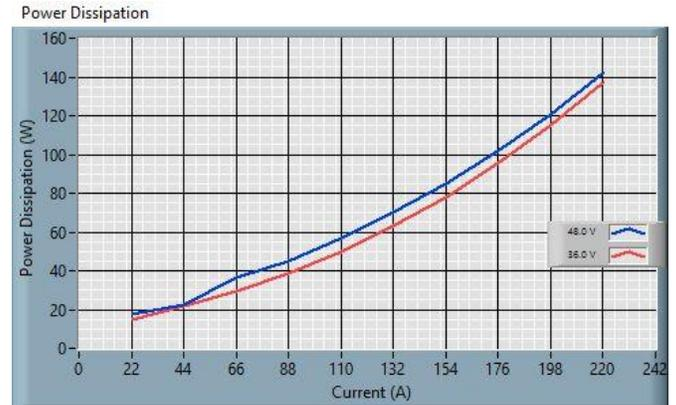

Fig. 2: 48S12.3K0BCA Power Dissipation – Buck Mode, Vo=14V.
Fig. 2: The bench setup used to operate 48S12.3K0BCA and take measurements provided in data sheet. The combination of the Electronic Load (E-Load) and Bench Power Supply (PS) emulates a battery capable of both sourcing and sinking current.